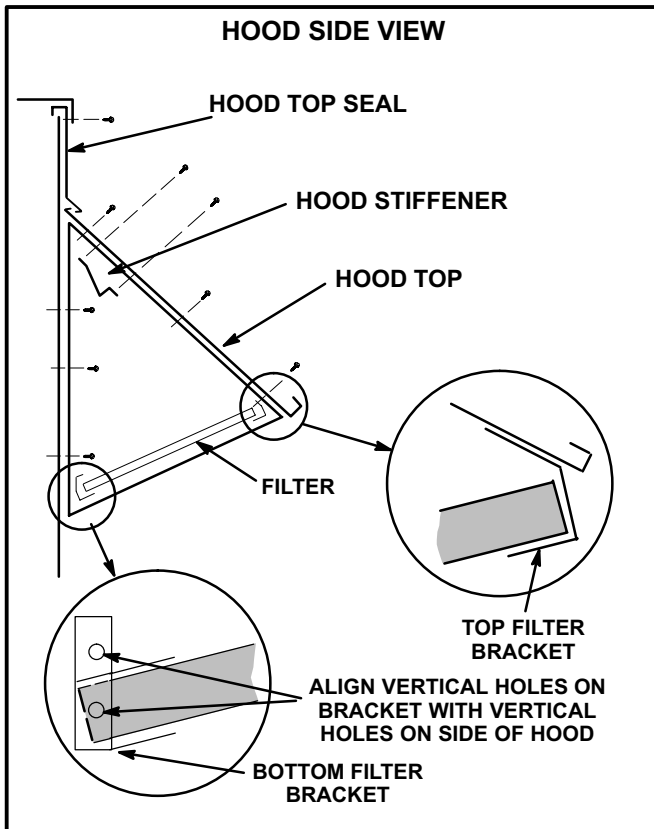

FIGURE 9
- 3- Align two holes on intake hood side panel with two holes on bottom (longer) filter bracket. See figure 9. Secure both sides of bottom filter bracket to hood sides with sheet metal screws.